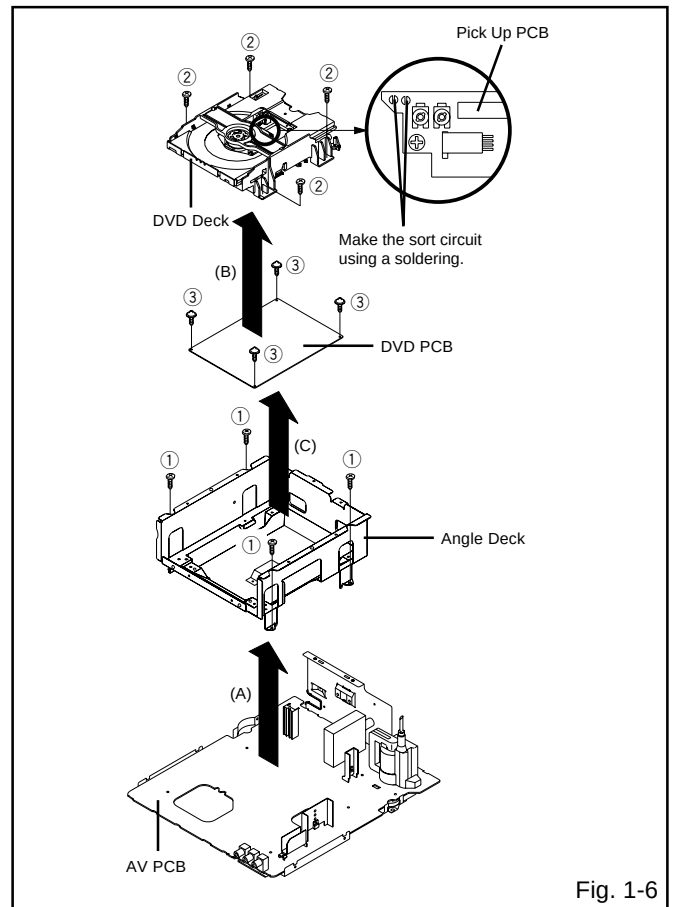

Fig. 1-6
1-6: DVD PCB/DVD DECK (Refer to Fig. 1-6)
1. Make the short circuit on the position as shown Fig. 1-6 using a soldering. If you remove the DVD Deck with no soldering, the Laser may be damaged.
3. Remove the 4 screws ①.
4. Remove the Angle Deck in the direction of arrow (A).
6. Remove the 4 screws ②.
7. Remove the DVD Deck in the direction of arrow (B).
8. Remove the 4 screws ③.
9. Remove the DVD PCB in the direction of arrow (C).